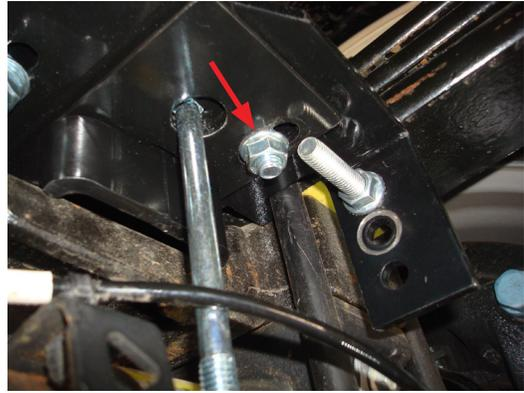

Fig. 26
7. Torque the nut (Q) to 32 lb.-ft. (43Nm) on both sides (Fig. 26).